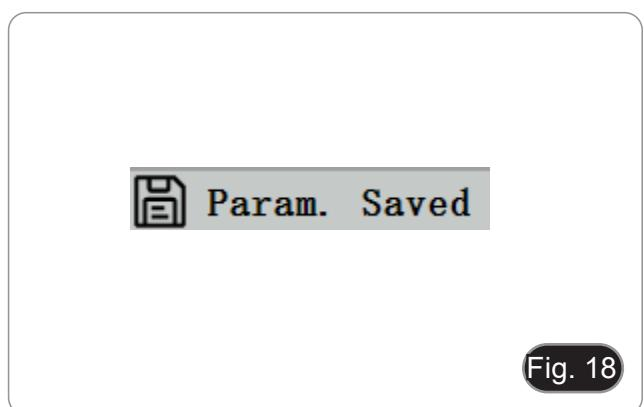

Fig. 18
3. In the upper left corner of the screen, "Param. saved" appears. (Fig. 18)